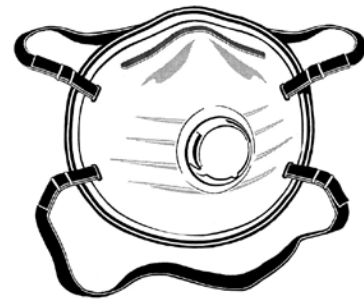

Figure 7:
1. **Non-powered** – Air is drawn through the air-purifying filter, cartridge, or canister when the wearer breathes in (Figure 7).